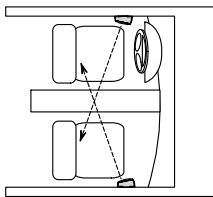

Figure 4a
3. Treble is directional in nature. This means that high frequencies are reduced as you move off the tweeter's axis. If possible, rotate the speakers so that the angle of the tweeter points across the car to the listener on the opposite side. This will make each listener slightly off-axis to the tweeter that is closest to that listener, but on axis to the most distant speaker, which helps compensate for the fact that each listener is always closer to one speaker than to the other (see Figures 4a and 4b). Choosing mounting locations that satisfy all of the above criteria will provide the most satisfying performance.